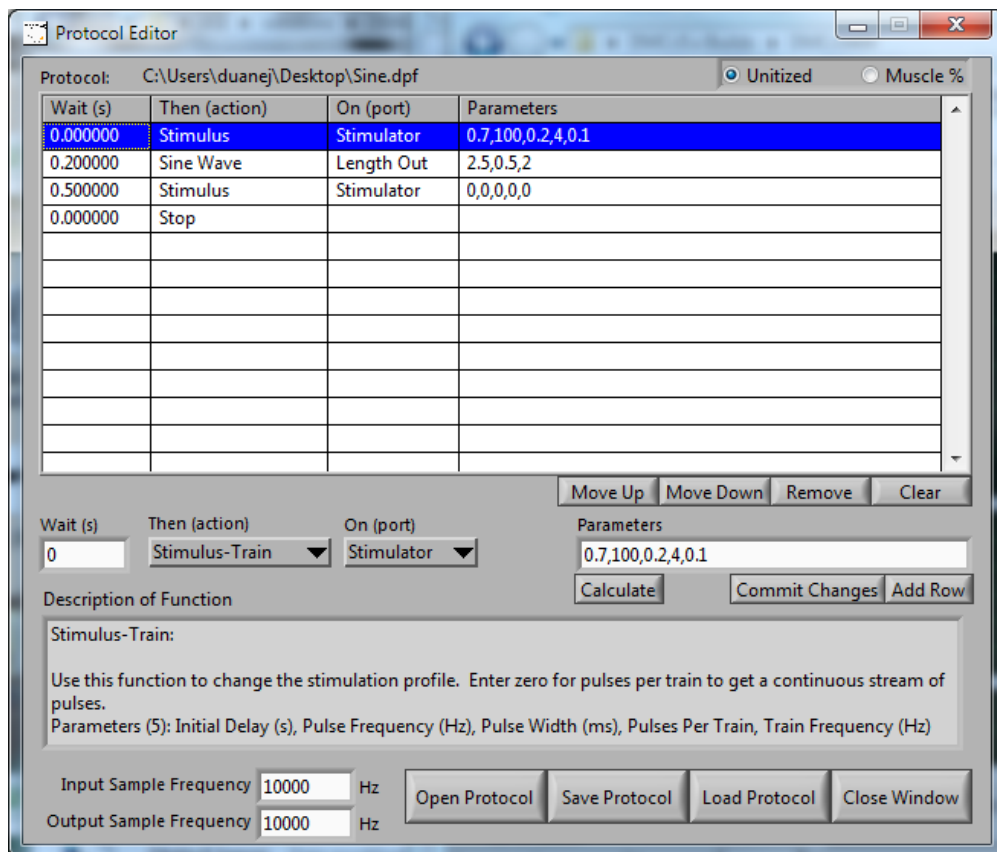

Figure 2: Protocol Editor Window
- 2) The protocol editor window (*Figure 2*) allows the user to create a series of events based on time. There are four headings on the screen labeled
movement. Enter the protocol shown in *Figure 2* by entering the Wait (s), Then (action), On (port) and Parameters values in the central protocol edit section of the window. If the row doesn't exist then you can click Add Row first, enter the values and then click Commit Change or you can first enter the values and then simply click Add Row which will add the currently defined row and commit it in one step. Information about the current action is displayed in the box near the bottom of the screen labeled Description of Function. This text box provides a brief description of each function including the expected number of parameters, and what each parameter is.